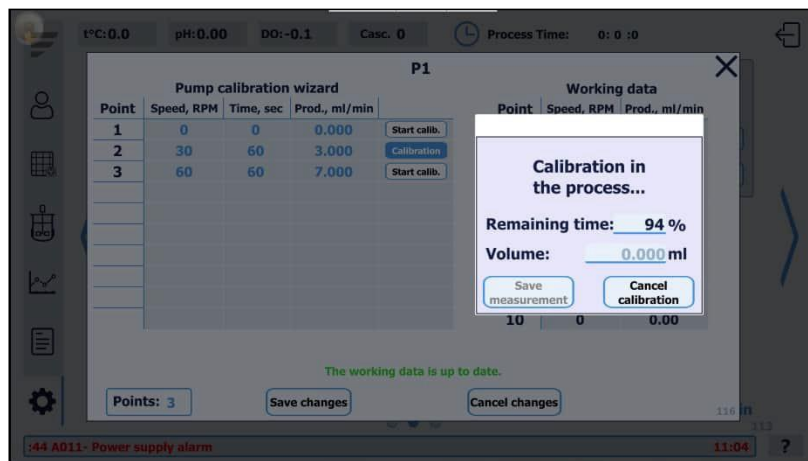

Figure 10.4. Pump calibration procedure
- 8) By pressing the START CALIBR. button the calibration procedure enables. During a pre-defined amount of time the pump operates using the defined settings (see Figure 10.4);